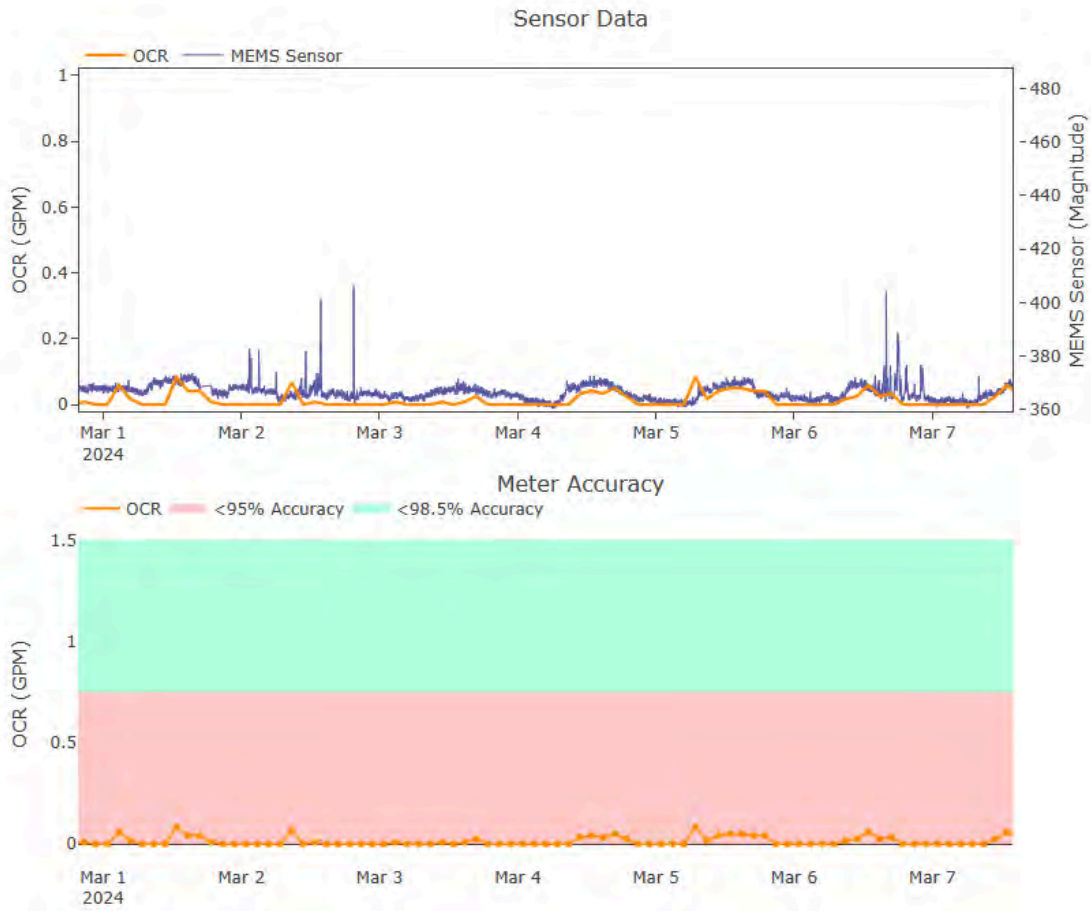

Figure 48 - Post repair 'Oversized meter' error
- This compound meter (Figure 48), was previously identified as having an oversized meter error. Fullerton staff have completely replaced the Sensus W Turbo 4" meter with a new Sensus Omni C2 4" meter, and Olea's MHA technology has identified this new meter is still identified as an 'Oversized' error condition.